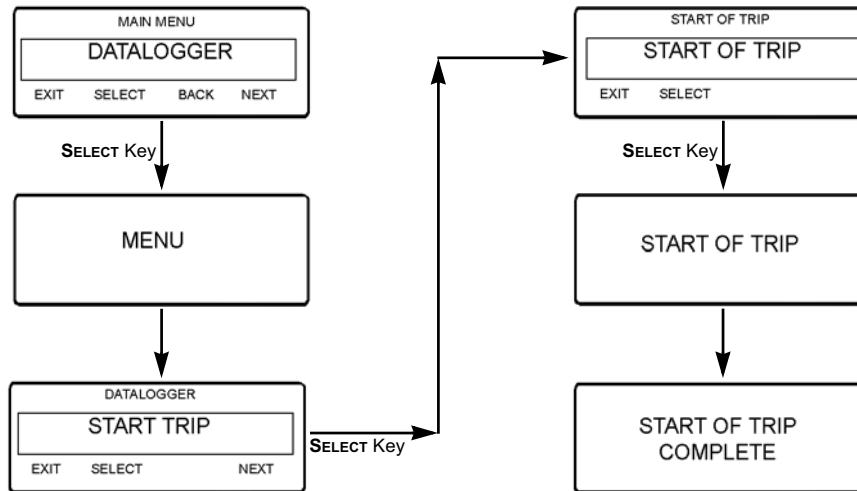

Figure 67: Start of Trip Screen Sequence
3. Press the **NEXT** soft key until the Datalogger Menu appears. See Figure 67.